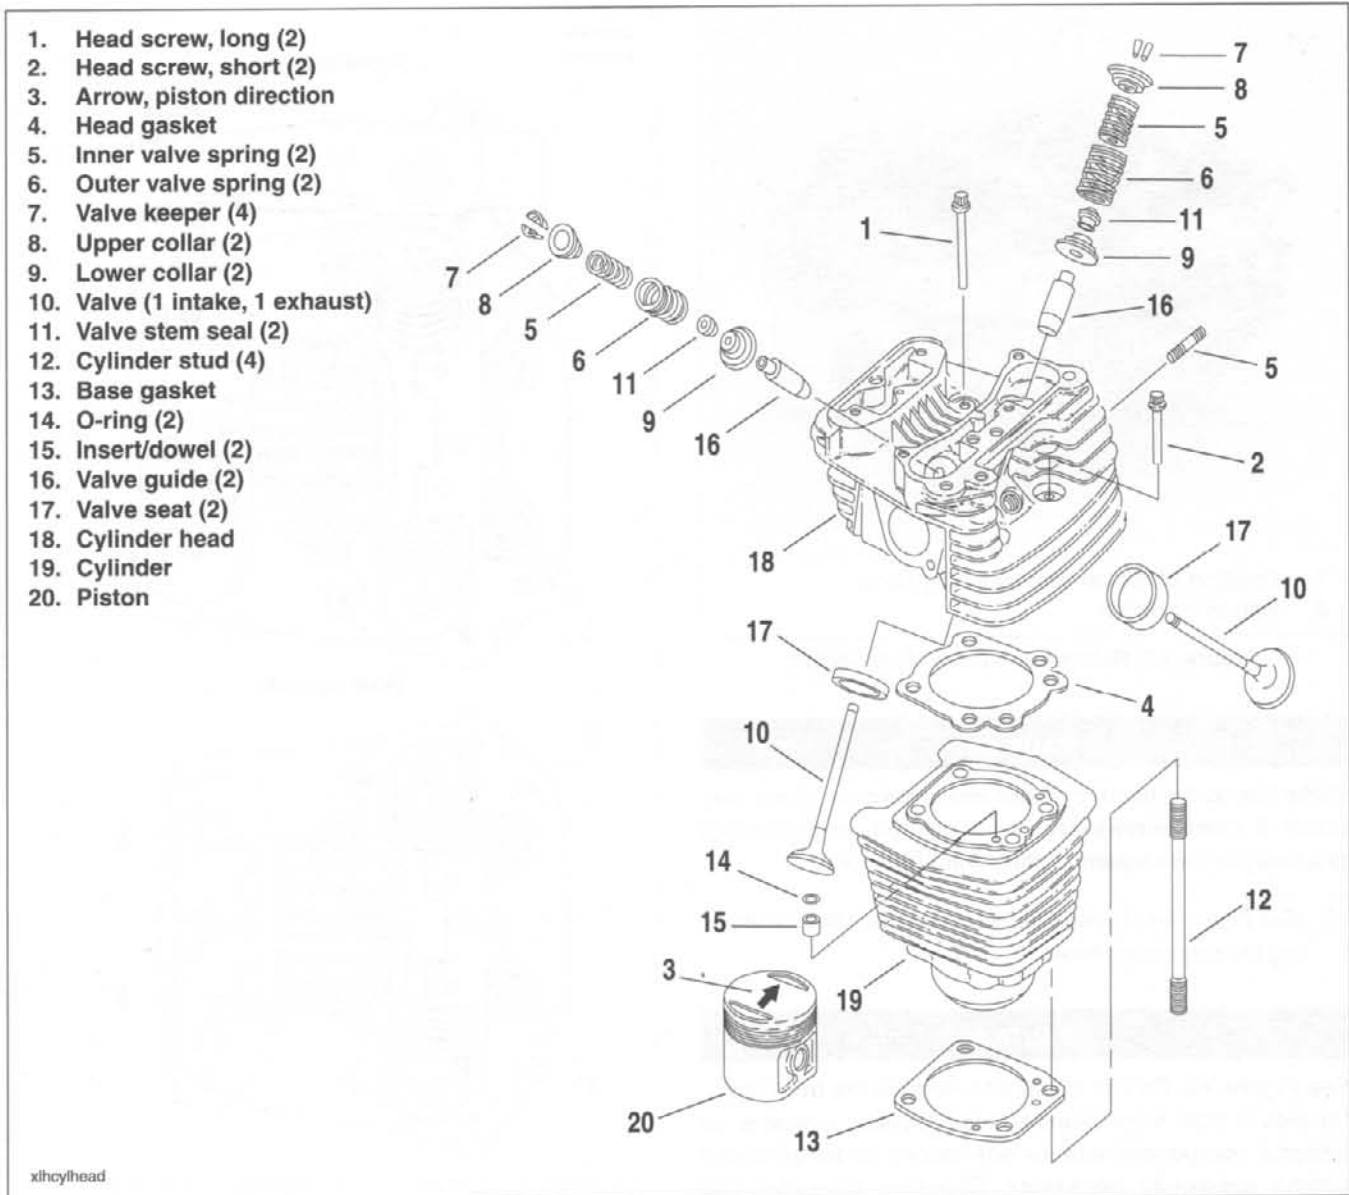

Figure 3-10. Cylinder Head, Cylinder and Piston
- See Figure 3-10. Remove cylinder head (18), head gasket (4), and O-rings (14).
2. See Figure 3-10. Remove valve keepers (7), upper collar (8) and valve springs (5, 6). Mark valve keepers for reassembly in their original locations.
4. Mark valve to ensure that it will be reassembled in the same head. Remove valve (10), valve stem seal (11) and lower collar (9).